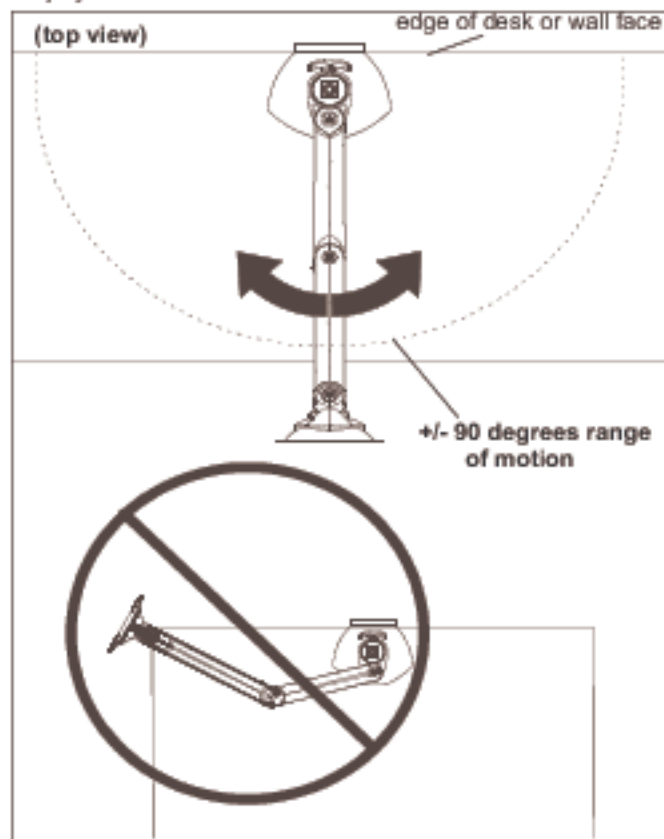

Figure 8
1. Adjust arm angle as desired up to 90 degrees in either direction. (See Figure 8)